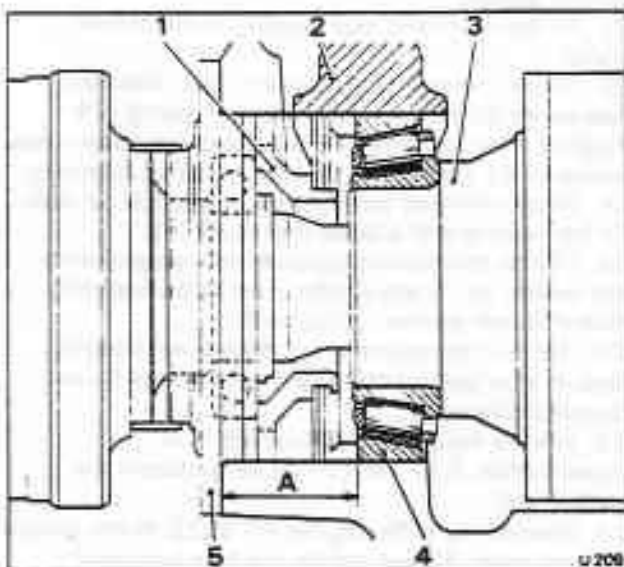

Fig. J1-11 Casing flange to bearing measurement
19. Accurately measure the distance from the casing flange to the taper roller bearing outer track on the right-hand side of the final drive casing (see fig. J1-11).